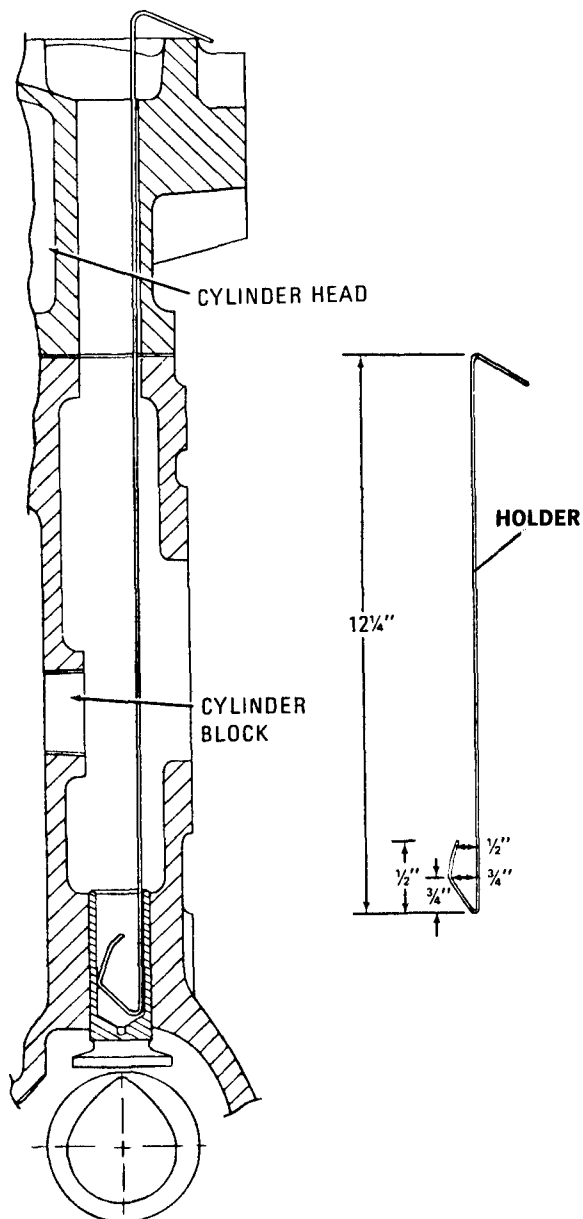

Figure 3-26. Valve Tappet Positioned for Camshaft Removal
h. Valve tappets (37) must be held in raised position in order to remove camshaft. Make holder, as illustrated in figure 3-26, by bending wire to form a spring-acting hook on one end. This holder may then be inserted into hollow part of tappet and tappet lifted away from camshaft. Bend holder over edge of pushrod hole in cylinder head so that tappet will remain in this position. Repeat this procedure for each of remaining tappets. With engine out of crane, it is necessary only to set engine on bellhousing or upside down (support engine with suitable blocks so that cylinder head studs will clear), push tappets to raised position, and remove camshaft.
a. Insert valve tappets (37, figure 3-15) into their respective holes in cylinder block. Use holding wires to keep tappets in raised position during camshaft installation, as shown in figure 3-26.